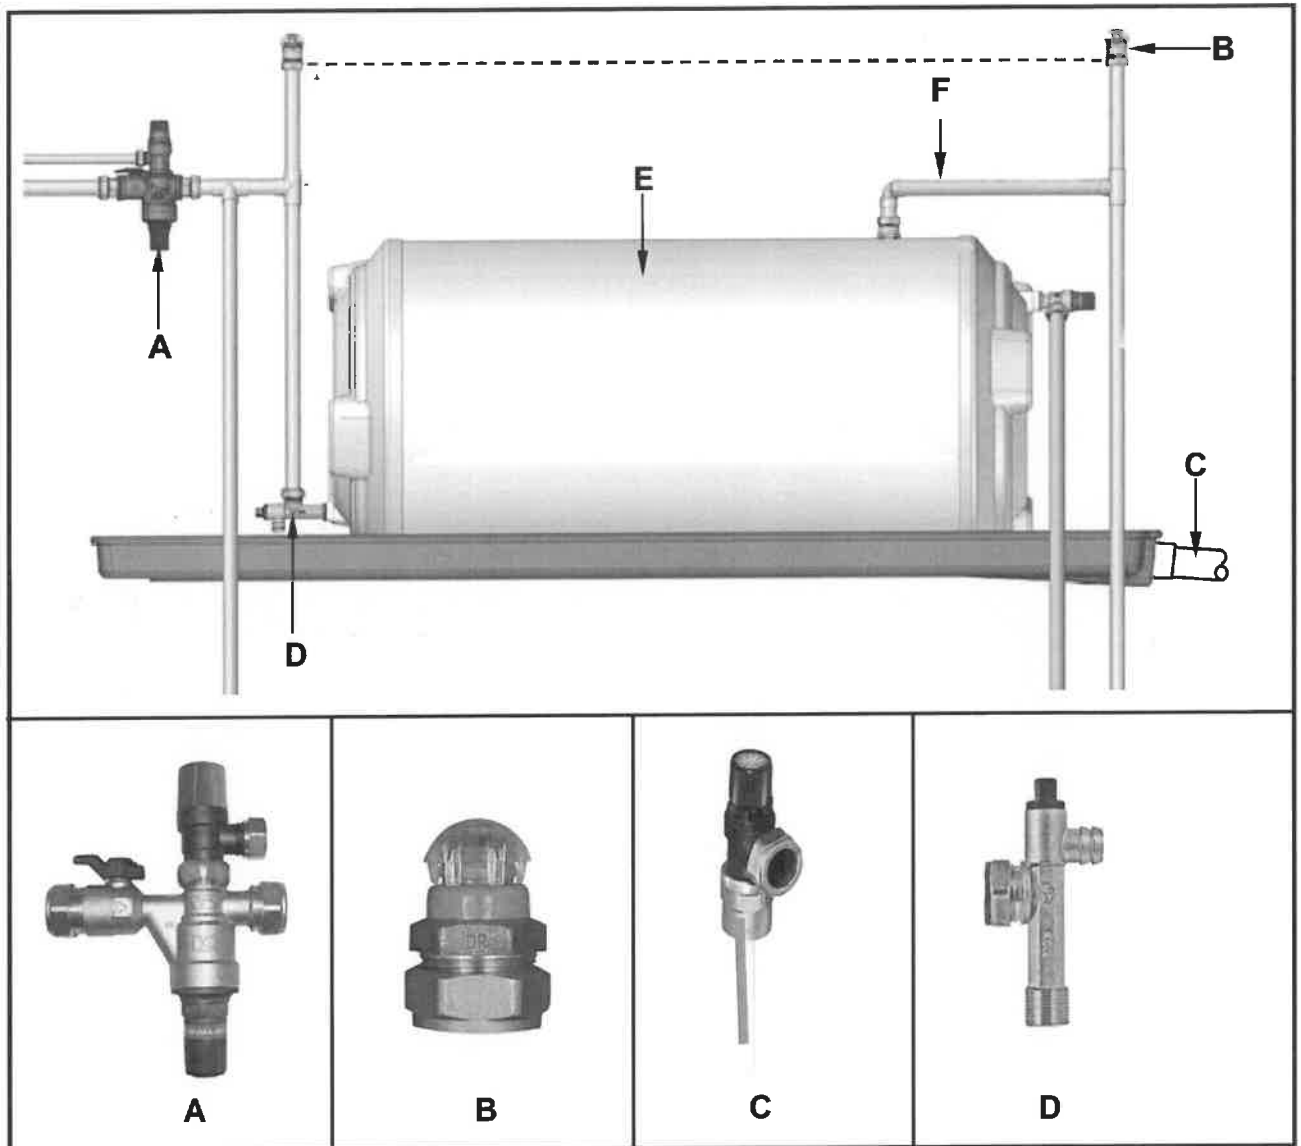

FIGURE 4.2
4.2 FIGURE 4.2 below shows an installation of a hot-water supply system with the corresponding components below the system.